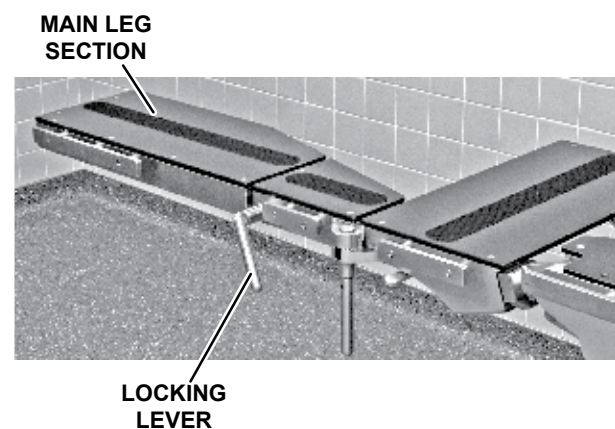

Figure 8. Position Main Leg Section
- Rotate the main leg section to the horizontal position and secure by tightening the locking lever (Figure 8).